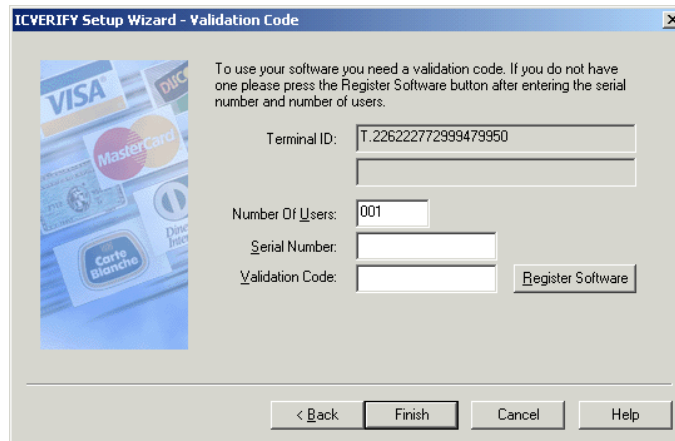

Figure 3.1.6-2: Serial Number & Validation Code
24. Left-click “Next” to proceed to the “Validation Code” window (see **Figure 3.1.6-2** below).